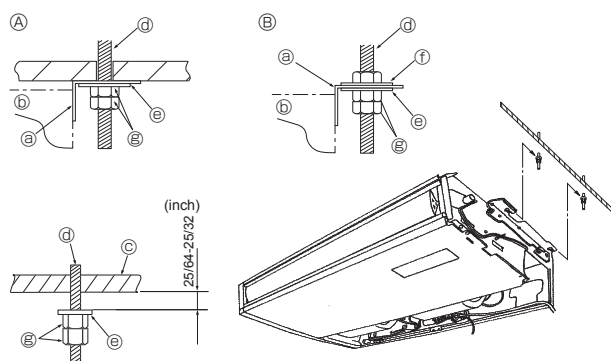

Fig. 3-6
3.3. Installing the indoor unit (Fig. 3-6)